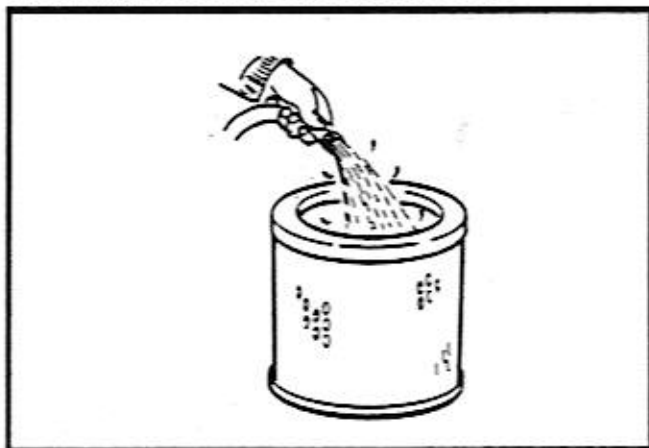

Figure 8-5. Rinsing the Element
6. Rinse the element with clean water until the water coming through the element is clean. Air-dry the element thoroughly before using. Refer to Figure 8-5.